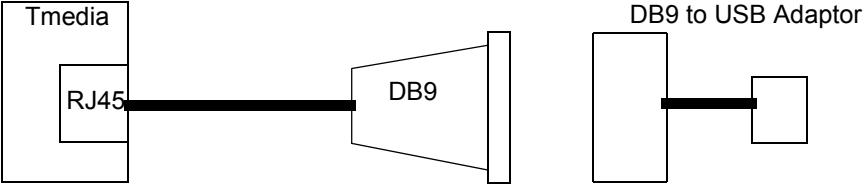

Figure 2.5 Conceptual View of a Serial Connection from the TMP800 to a Computer
- 2. If your computer’s serial port features a DB9 connector, use the DB9 to RJ45 adapter supplied with your Tmedia unit. If your computer's serial port features a USB connector, you will need to provide a USB to DB9 adaptor. Refer to Figure 2.5 on page 13.